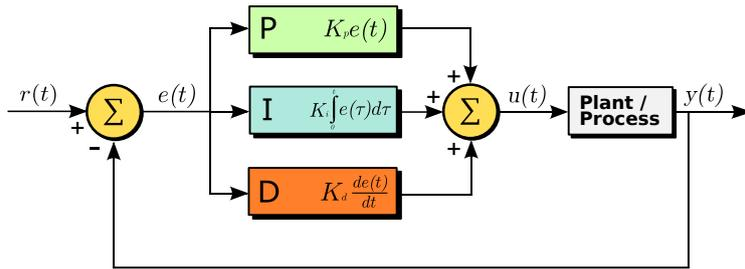

Figure 4: PID controller (source: wikipedia)
velocity of the robot, the simple controller of the first lab is not good enough. The gold standard in control to solve this problem is the PID (proportional–integral–derivative) controller, see figure 4.
For this part of the lab you will need to use two PID loops, one for controlling the linear velocity and one for controlling the angular velocity. The PID controller is already implemented as part of the standard distribution of *March*, it can be found in the *march_control* library. It has a single output, which is the update $u(t)$ in figure 4. It takes four inputs:
- `control` (`std_msgs/float64`) a number which correspond to the target velocity ($r(t)$ in figure 4)
- `observation` (`std_msgs/float64`) a number which correspond to the odometry value ($y(t)$ in figure 4)